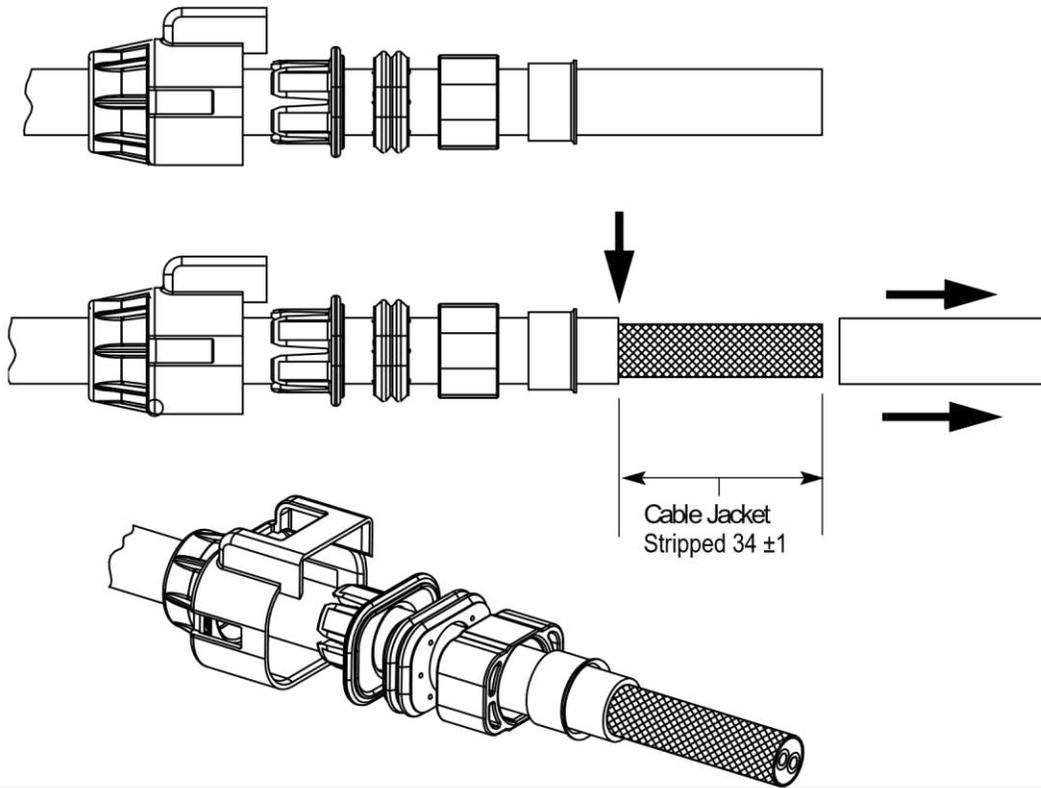

Figure 4
- 3.6.2. Strip and remove the outer cable jacket and separator (if present) from the end, exposing the braided cable shield as shown in Figure 4. Residue of separation foil max 2mm around cable and 4 mm for sharp edges.